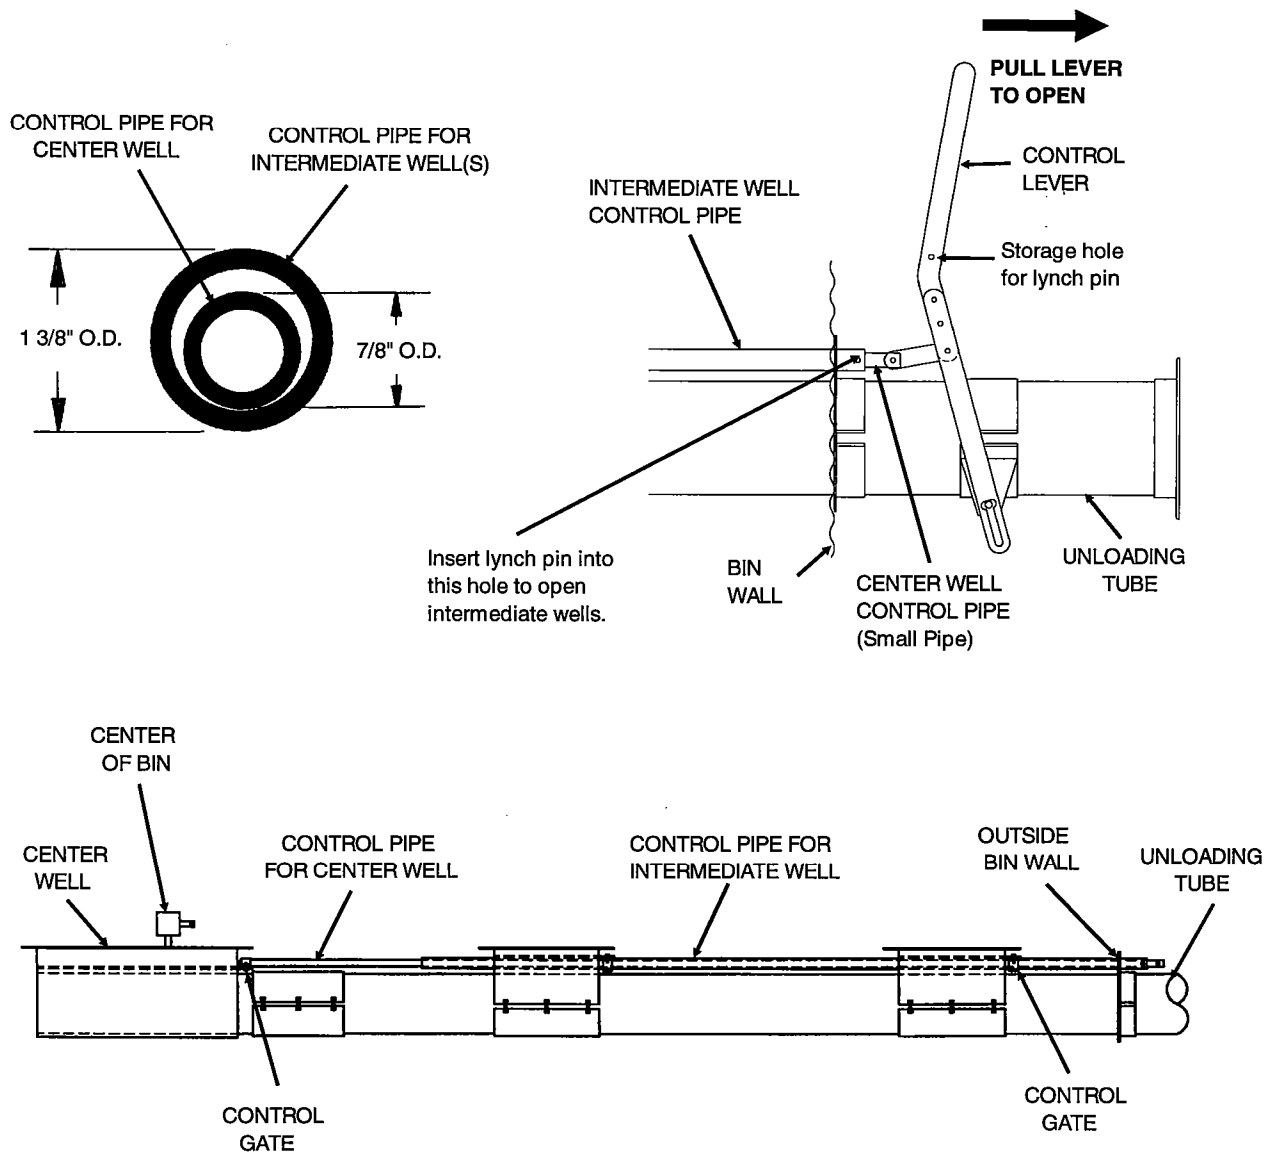

FIG. 3
- A. Close the center well and the intermediate well gates. Push the control pipes to close. (See Fig. 3 on page 8.)
- B. Open the center well gate which is the small pipe on the top side of the auger tube. Make sure lynch pin has **not** been inserted through the intermediate control pipe. See Fig. 3. Open gradually until the desired flow is established. It should not be necessary to open the gate more than 3 to 6 inches. Always close the center well gate and allow the unloader to clean out before stopping the unloader. When restarting open the center well gate to the previous position immediately after starting the unloader.
- C. When grain flow stops from center well, close the center well gate and insert lynch pin through the intermediate well control pipe. (See Fig. 3.) Now you will be able to open the intermediate well. *Open gradually until the desired flow is established. It should not be necessary to open the gates more than 2 to 4 inches.